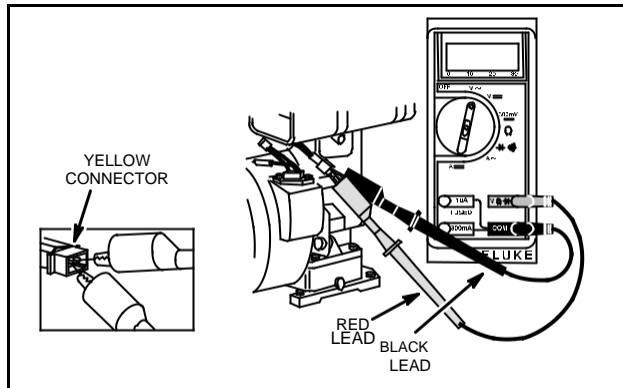

Fig. 771 – TESTING ALTERNATOR OUTPUT
4. Attach RED test lead clip to one of the output pins in the yellow connector, Fig. 771.